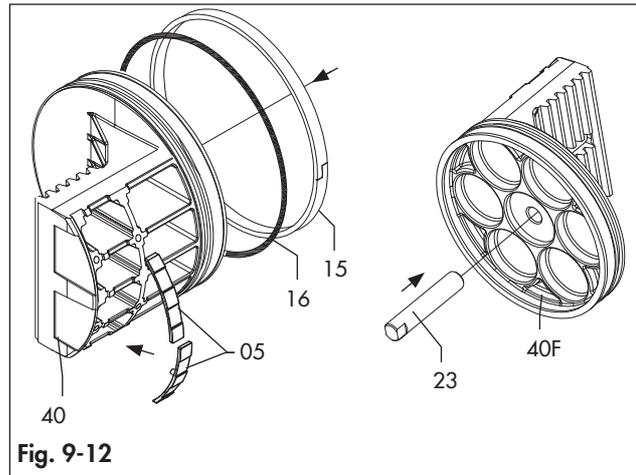
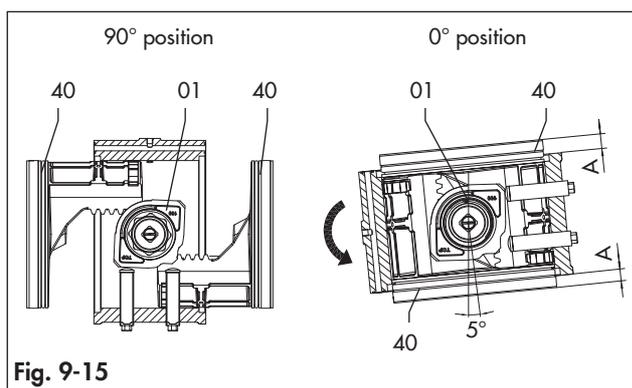

Fig. 9-12
Fig. 9-15
Refer to Fig. 9-1 and from Fig. 9-12 to Fig. 9-15.
- Insert and press the two pistons (40) simultaneously inside the body (50) until the pistons are engaged.
- Then rotate the body (50) anticlockwise from top view until the stroke is completed.
- With pistons completely closed (0° position) as per Fig. 9-15, referring to the axis of the body, the rotation obtained must be about over 0° up to 5°.
- With pistons completely closed (0° position) as per Fig. 9-15 the dimension "A" must be the same on both sides.
- Fasten or unscrew the screws (23) to push the pistons in the 0° position (Fig. 9-15).
- Lubricate and place the o-rings (11F) over the screws (23).
- Fix the screws (23) in position tightening the nuts (04F) along with the washer (03F).
- With the actuator in close position (0° position) referring to Fig. 9-15 for pistons position, screw or unscrew the right stop screw (02) 1 turn at a time until the desired stop position is achieved. In case of spring return actuator, a pneumatic supply may be necessary.